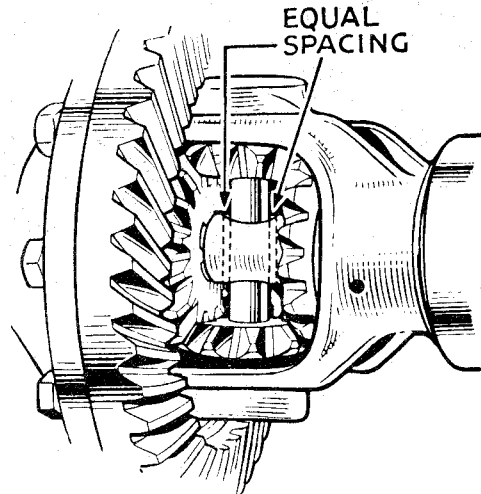

Fig. 10 Showing position of differential cross-pin in relation to thrust block.
**Important.**—In addition to the existence of the specified end-float, it is important that the thrust block which separates the inner extremities of the two axle shafts, should have a clearance on the cross-pin, as shown in Fig. 10. To ensure centralization of the thrust block with the cross-pin, the shim packs behind both backing plates will be approximately of equal thickness.